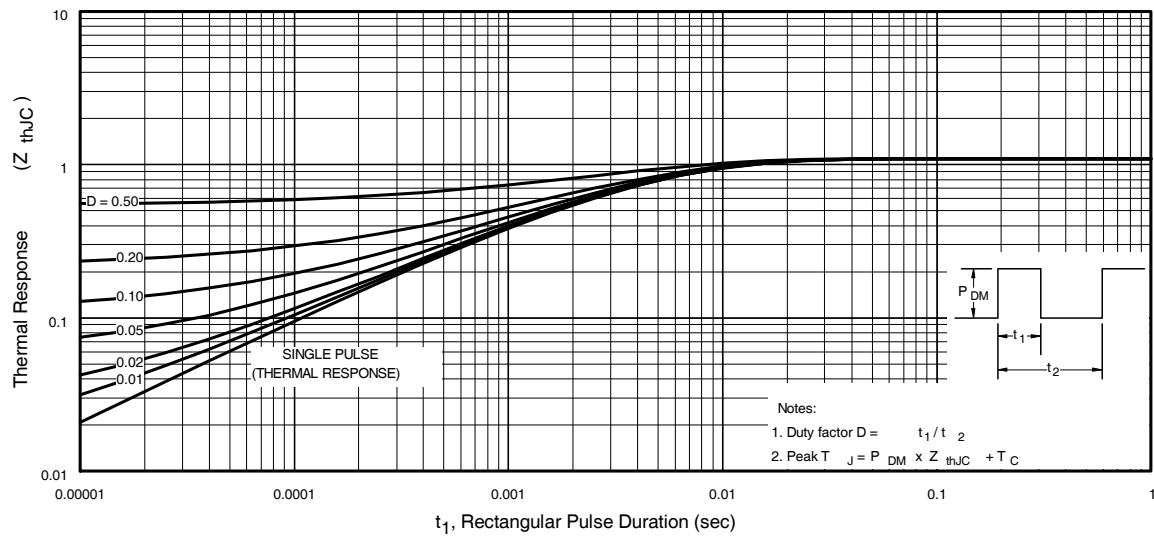
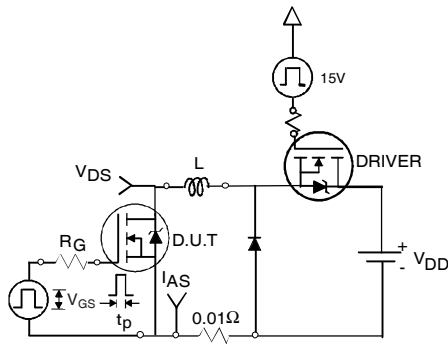

Fig 11. Maximum Effective Transient Thermal Impedance, Junction-to-Case
Fig 12a. Unclamped Inductive Test Circuit
- ① Repetitive rating; pulse width limited by max. junction temperature. (See fig. 11).
- ② Limited by T_{Jmax} , starting $T_J = 25^\circ\text{C}$, $L = 0.52mH$, $R_G = 25\Omega$, $I_{AS} = 30A$, $V_{GS} = 10V$. Part not recommended for use above this value.
- ③ $I_{SD} \leq 30A$, $di/dt \leq 170A/\mu s$, $V_{DD} \leq V_{(BR)DSS}$, $T_J \leq 175^\circ\text{C}$.
- ④ Pulse width $\leq 1.0ms$; duty cycle $\leq 2\%$.
- ⑤ $C_{oss \text{ eff.}}$ is a fixed capacitance that gives the same charging time as C_{oss} while V_{DS} is rising from 0 to 80% V_{DSS} .
- ⑥ Limited by T_{Jmax} , see Fig.12a, 12b, 15, 16 for typical repetitive avalanche performance.
- ⑦ This value determined from sample failure population. 100% tested to this value in production.
- ⑧ Calculated continuous current based on maximum allowable junction temperature. Package limitation current is 56A.
- ⑨ When mounted on 1" square PCB (FR-4 or G-10 Material). For recommended footprint and soldering techniques refer to application note #AN-994.
- ⑩ R_θ is measured at T_J of approximately 90°C .
3. Equation below based on circuit and waveforms shown in Figures 12a, 12b.
$Z_{thJC}(D, t_{av})$ = Transient thermal resistance, see figure 11)